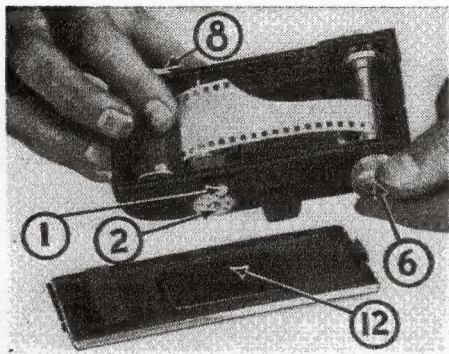

Figure 2
in Figure 2. Pull out the rewind knob (8) and insert the film cartridge in the camera with the lip and leader of the film pointing toward you.